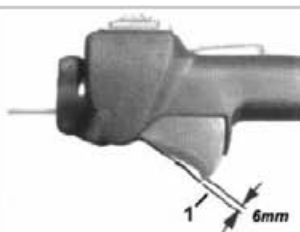

Fig.E7
2. Adjust the throttle cable adjuster nuts until you achieve a free play on the throttle trigger of about 6mm. See Fig.E7.